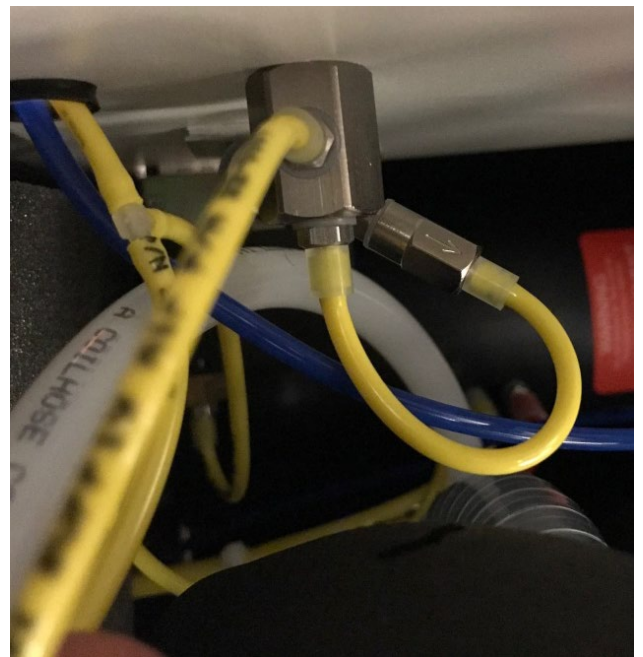

Fig. 3
- 7 Remove check valve from the water system supply air tubing, indicated in Fig. 3.